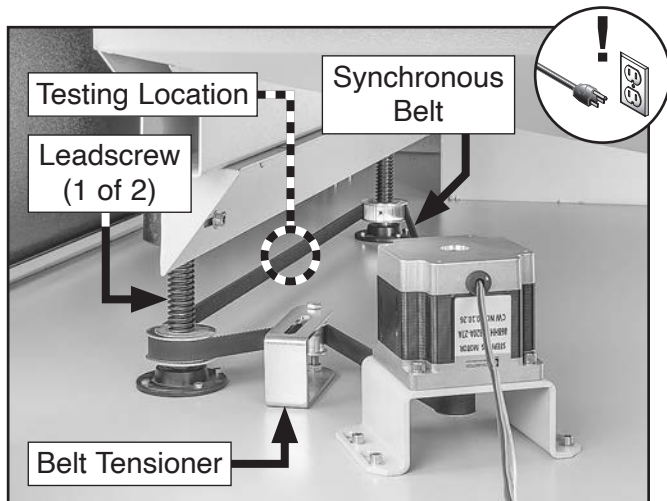

Figure 76. Example of left Z-axis belt deflection testing location.
5. Test for approximately 8mm of deflection on top side of Z-axis belt at its center between table leadscrews (see **Figure 76**).